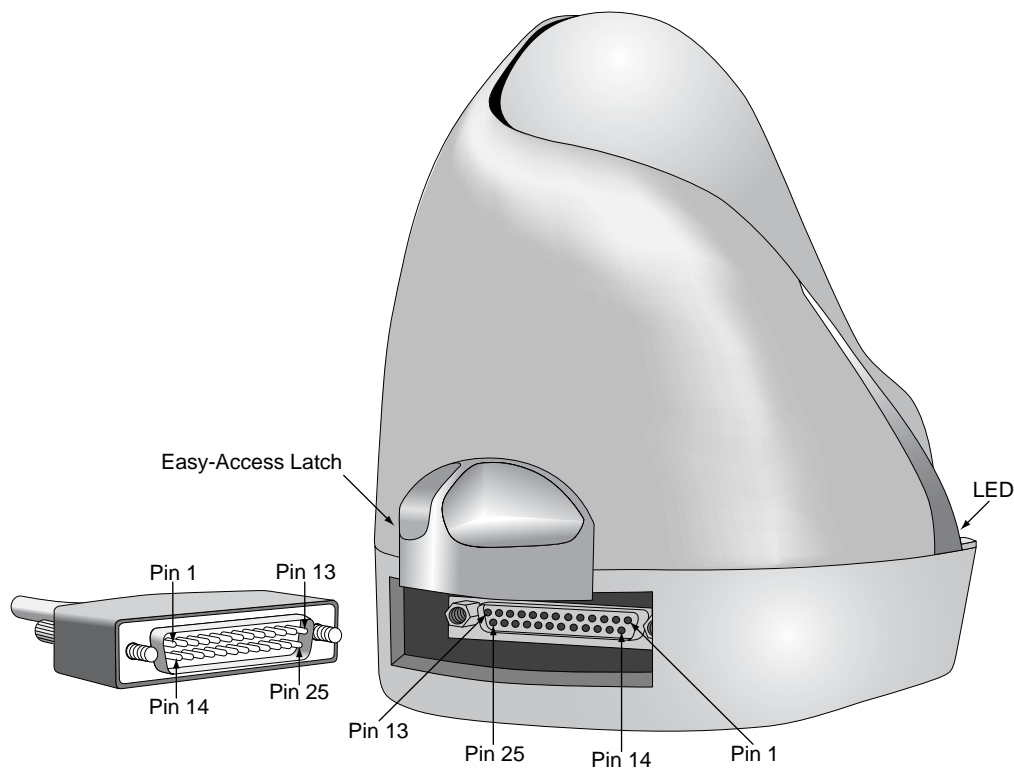

Figure 2-2. DB25 Connection
1. Connect the male DB25 connector to the MICRImage as shown in Figure 2-2.